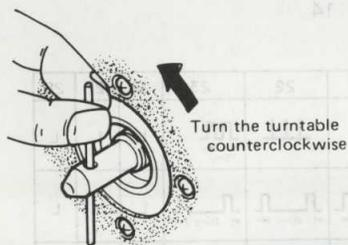

Fig. 8
2) To remove the turntable, re-fit the centre spindle. Steady the spindle, and turn the turntable counterclockwise. (See Fig. 8)